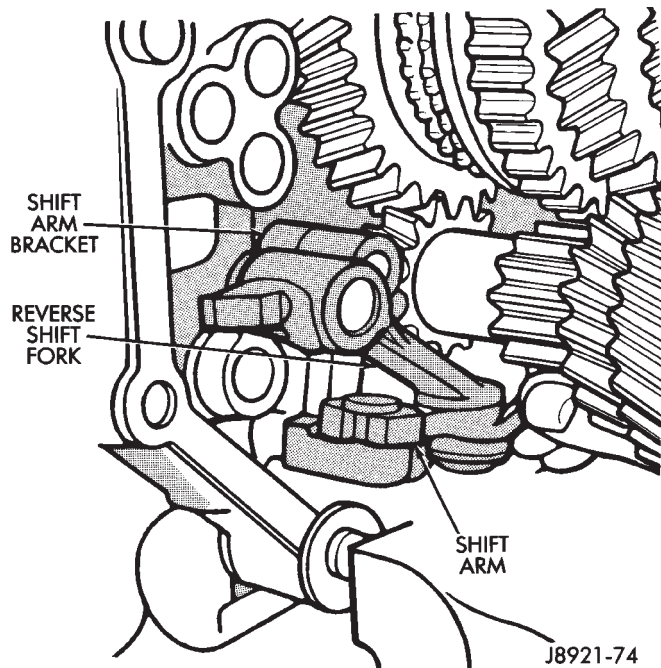

Fig. 74 Installing Reverse Shift Arm
(1) Install reverse shift arm. Then seat shift fork in bracket (Fig. 74).